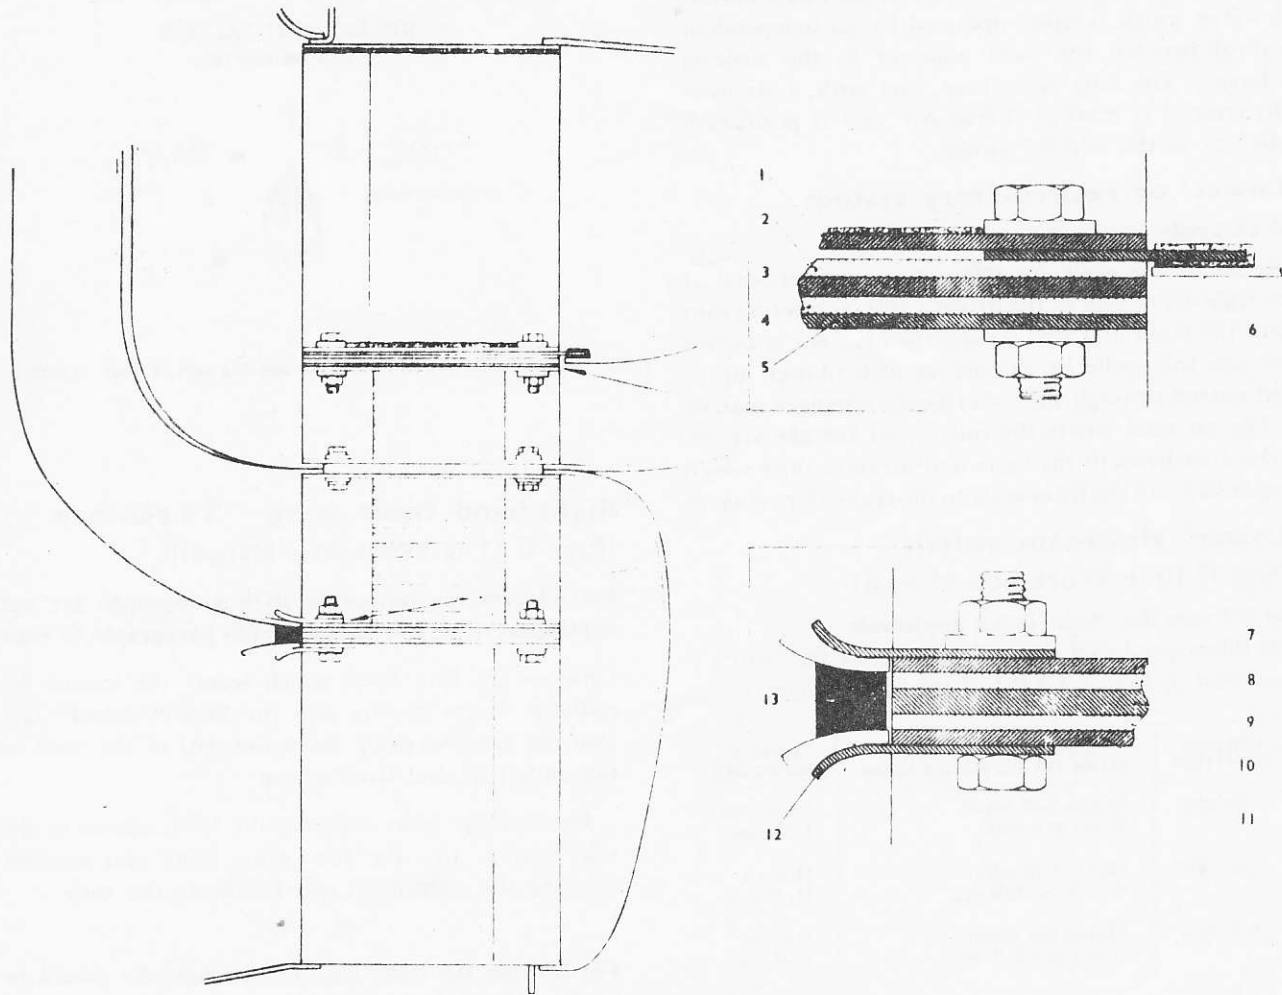

Fig. C4 (S) Sectional view of heating unit
towards the valance plate; then using six nuts, bolts and twelve plain and 'Ferobestos' washers bolt the two matrices together as shown in Figure C4 (S) of this Supplement.
Fit the upper 'dummy' evaporator above the matrix and bracket placing a thin 'Ferobestos' packing between the evaporator and the bracket. Ensure that the diagonal stiffener of the upper 'dummy' evaporator is to the rear of the assembly as shown in Figure C4 (S) of this Supplement. Refit the felt covered sealing strip between the evaporator and the 'Ferobestos' packing pieces as shown in Figure C4 (S) of this Supplement. If a new felted strip is fitted, the outer edge must be trimmed to fit the ducting; then using six  $\frac{1}{4}$  in. nuts, bolts and plain washers, bolt the assembly together.
Repeat the above procedure with the lower 'dummy' evaporator noting that in this case the diagonal stiffener must be to the front of the assembly. Two 'Ferobestos' packing pieces are used, one each side of the mounting bracket, and in addition two curved plates are bolted along the lower edge of the matrix to locate and secure the rear ducting as shown in Figure C4 (S) of this Supplement.